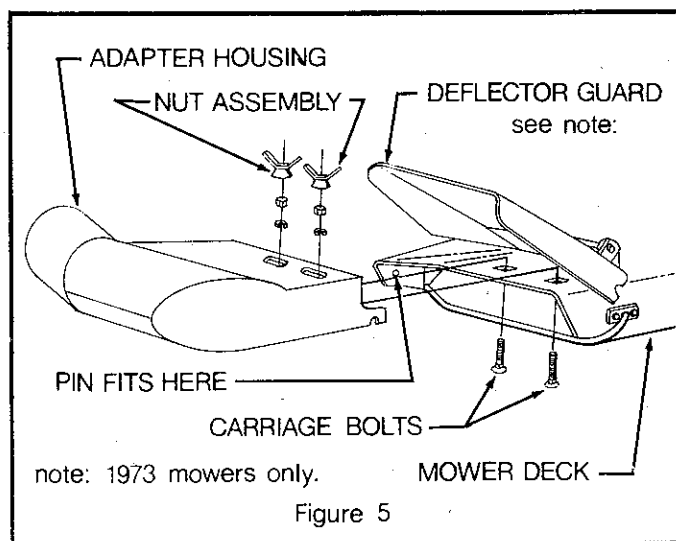

Figure 5
- Install the hose extension in the other end of the 7" hose. Secure with the other large hose clamp and one 1/4-20 x 2" machine screw, lockwasher and hex nut (Figure 5).
- Slide the hose extension over the adapter discharge pipe (Figure 5).